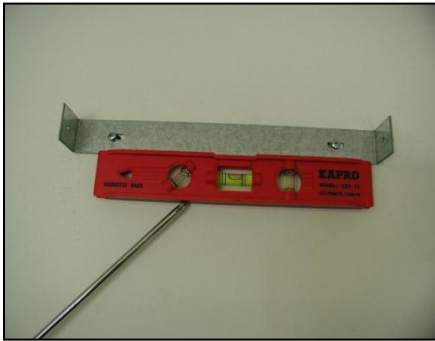

Figure 27
4. Mark the position of the duct cover-mounting bracket. Use reference **E** from Table 2 for references. Attach and secure duct cover-mounting bracket with two screws (not provided). Refer to Figure 27. NOTE: Inner duct cover will cover the mounting bracket.